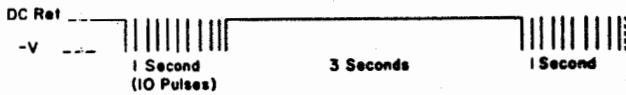

Figure 6.
- b. Connect oscilloscope probe between terminals Z and B (dc return) and observe that oscilloscope waveform resembles that shown in Figure 6.
- b. Connect oscilloscope probe between terminals J and B (dc return) and observe that oscilloscope waveform resembles that shown in Figure 6, except that:
- (1) When RN is at dc return, terminal J is at -V;
- (2) When RN is at -V, terminal J has a sinusoidal 400 Hz waveform, centered 5 volts above -V, with 2 volts peak-to-peak.